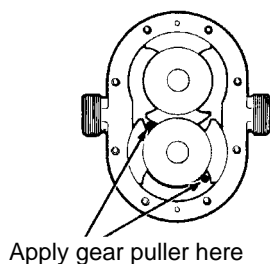

Figure 34 - Apply Gear Puller
5. Orient the rotors perpendicular to each other and remove the rotor with both wings exposed first. Handle the rotors with care to avoid nicks and scratches. If the rotor is stuck tight, use a gear puller or hardwood lever behind the rotor hub to force it off the spline (Figure 34).